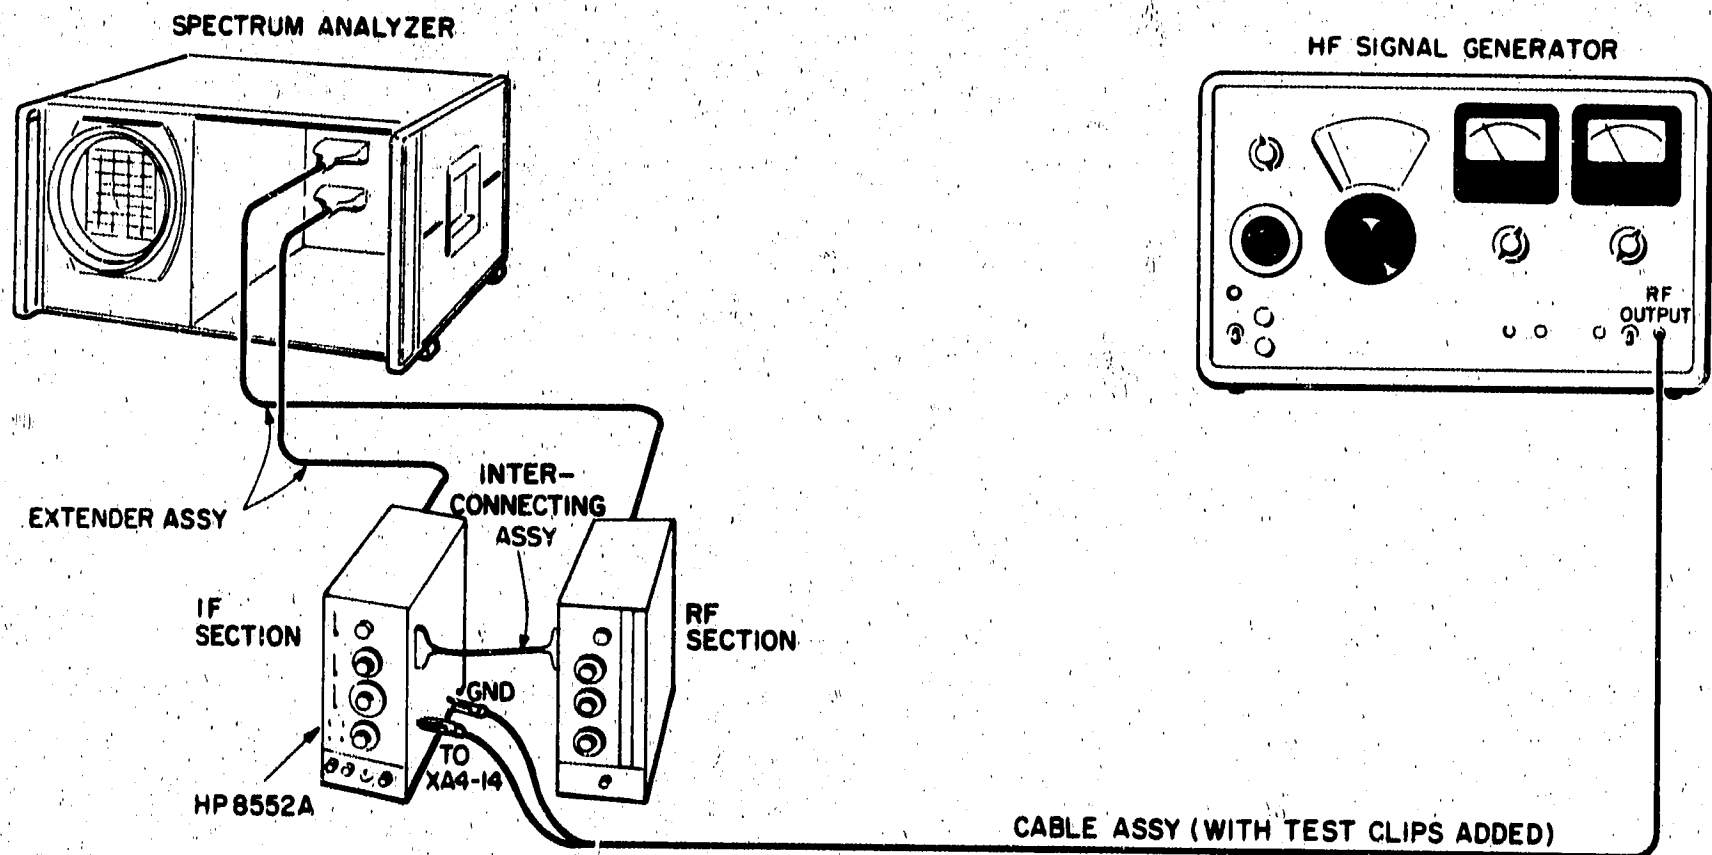

Figure 5-5. Vertical Deflection Amplifier Test Setup
2. Connect the test setup shown in Figure 5-5, turn Analyzer power ON, and set controls as follows: